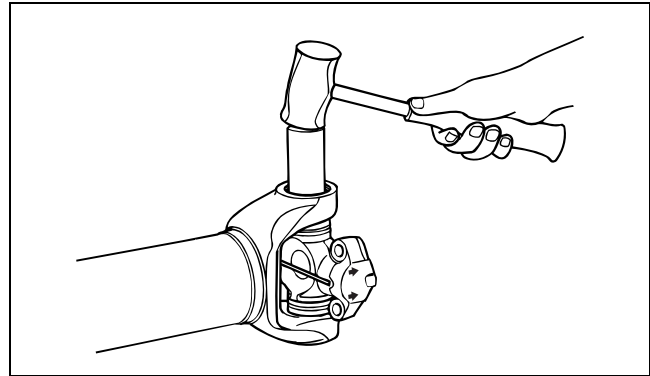

Figure 4.5
- If necessary, use a brass drift and lightly tap the center of the bushing to assist in snap ring removal. Figure 4.5.